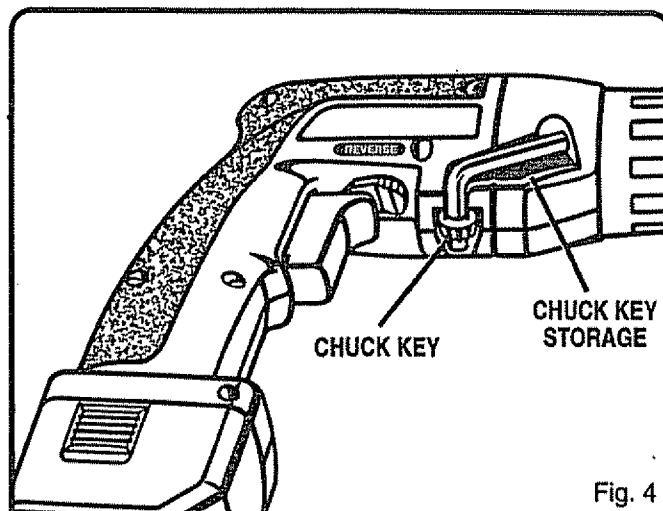

Fig. 4
See Figure 4.
When not in use, the chuck key can be placed in the storage area located on the bottom of your drill as shown in figure 4.
- Remove chuck key from storage. See Figure 4.